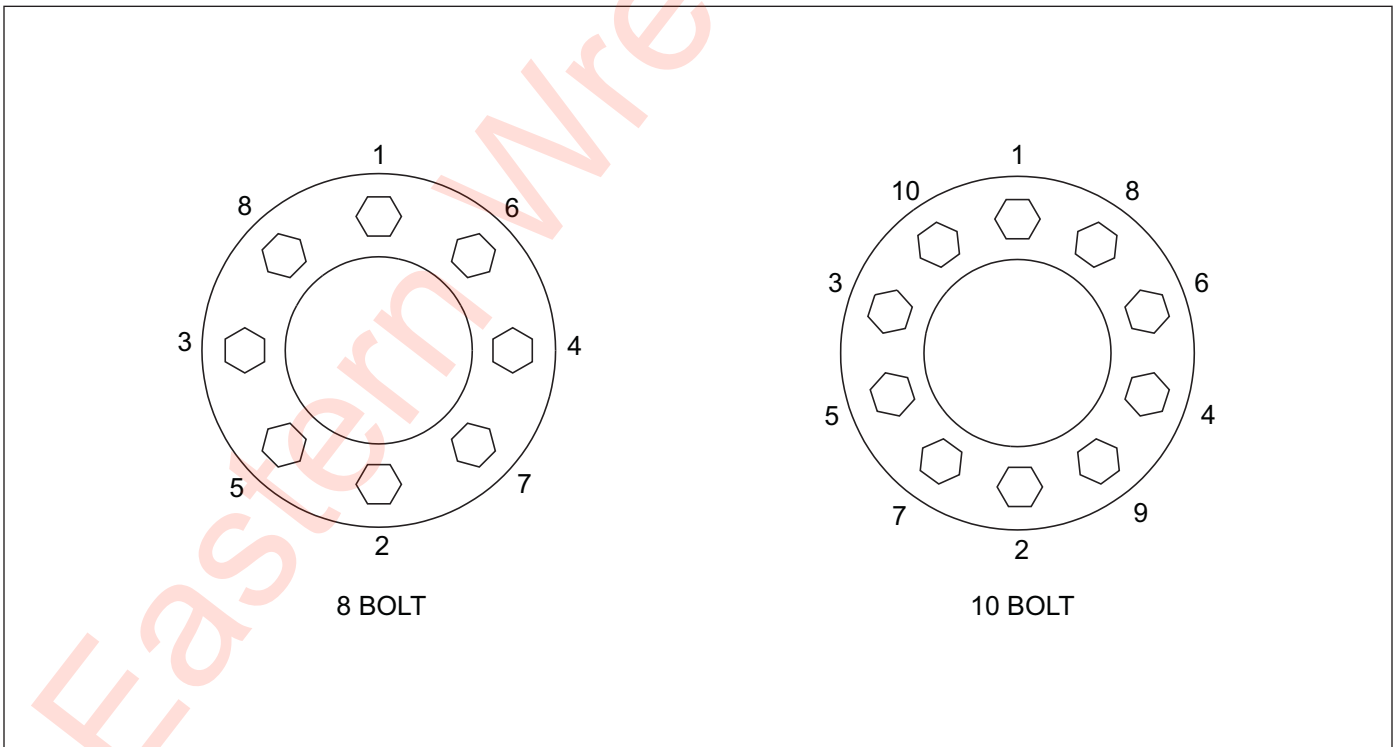

Figure 4-23: Stud Tightening Sequence
4. Install the flange nut and tighten to 50 foot-pounds using the sequence in Figure 4-23. Then tighten to full torque of 500 to 550 foot-pounds.